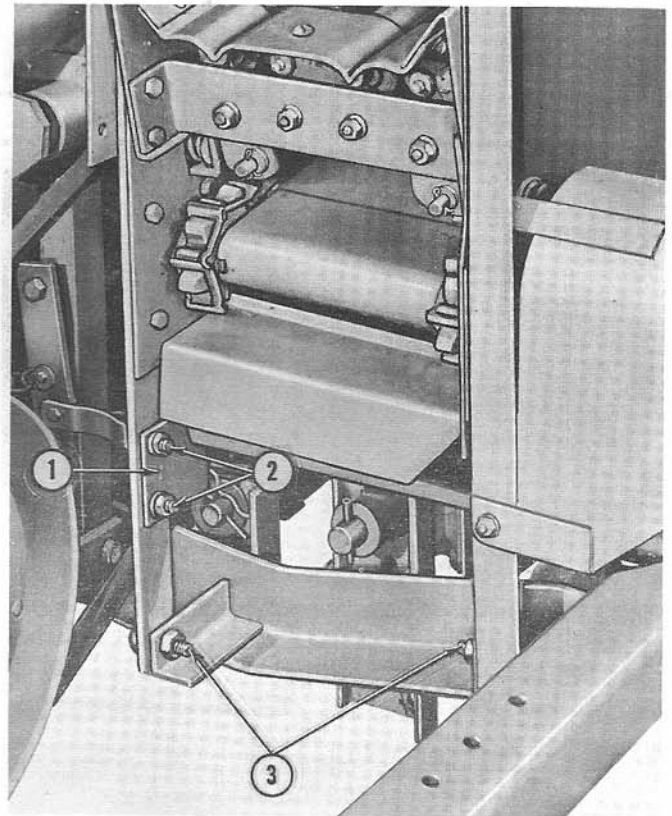

Figure 9
1. Using a suitable hoist, raise the husking or conveyor unit into position on the rear of the implement and attach the left end to the drawbar frame with two 1/2" x 1-1/2" hex head bolts, lock washers and nuts (3), Figure 9.
3. Attach the clutch throw-out rod front guide (1), Figure 9, to the unit with two 3/8" x 1" hex head bolts, lock washers, and nuts (2).